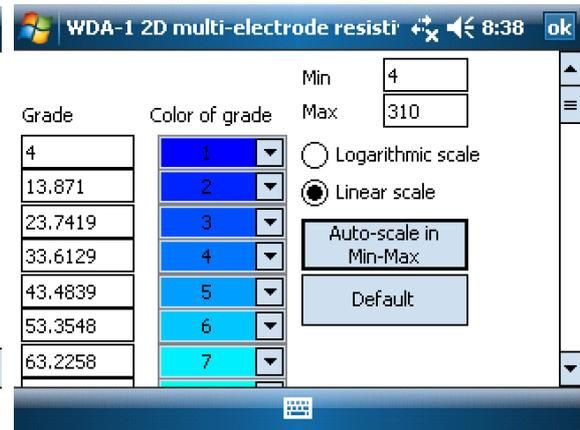

Fig. 7-10
**Section color:** see Fig.7-10, “Auto-scale in Min-Max” button is to set color automatically according to values chosen in “Max” and “Min” pull-down boxes; “Default” button is to set color automatically according to maximum and minimum resistivity of the present section. User can also select “Logarithm scale” and “Linearity scale” to set color.